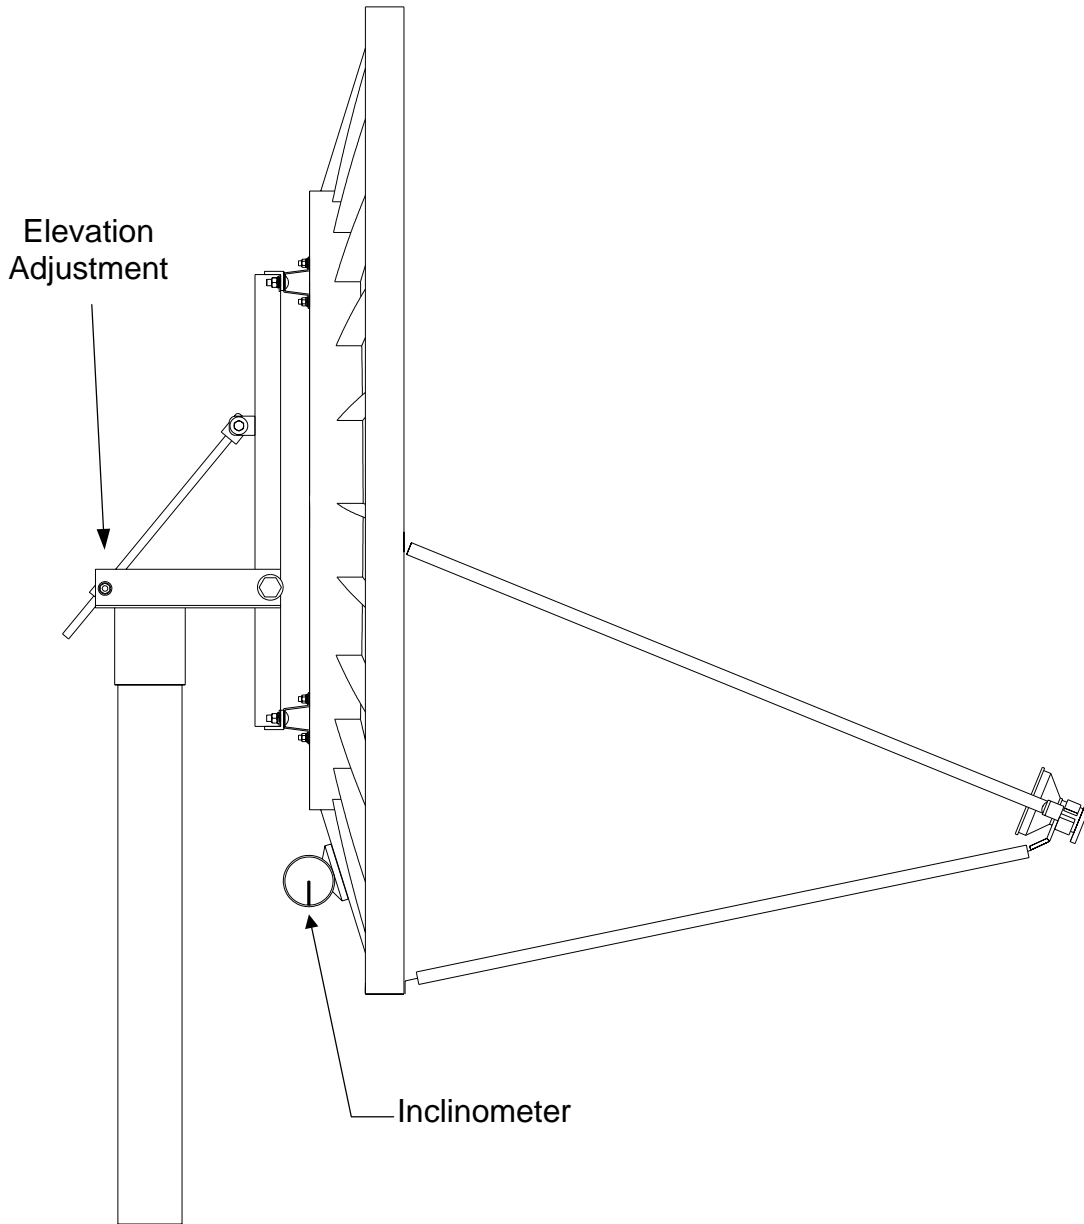

FIGURE 3
- 1) Aligning to primary satellite: Place the inclinometer on the sight reference rib as shown in figure 3. This surface compensates for the 22.3° offset in the reflector, therefore a direct reading can be taken.
- 5) Tighten the four (6) 1/2" set screws in the canister.